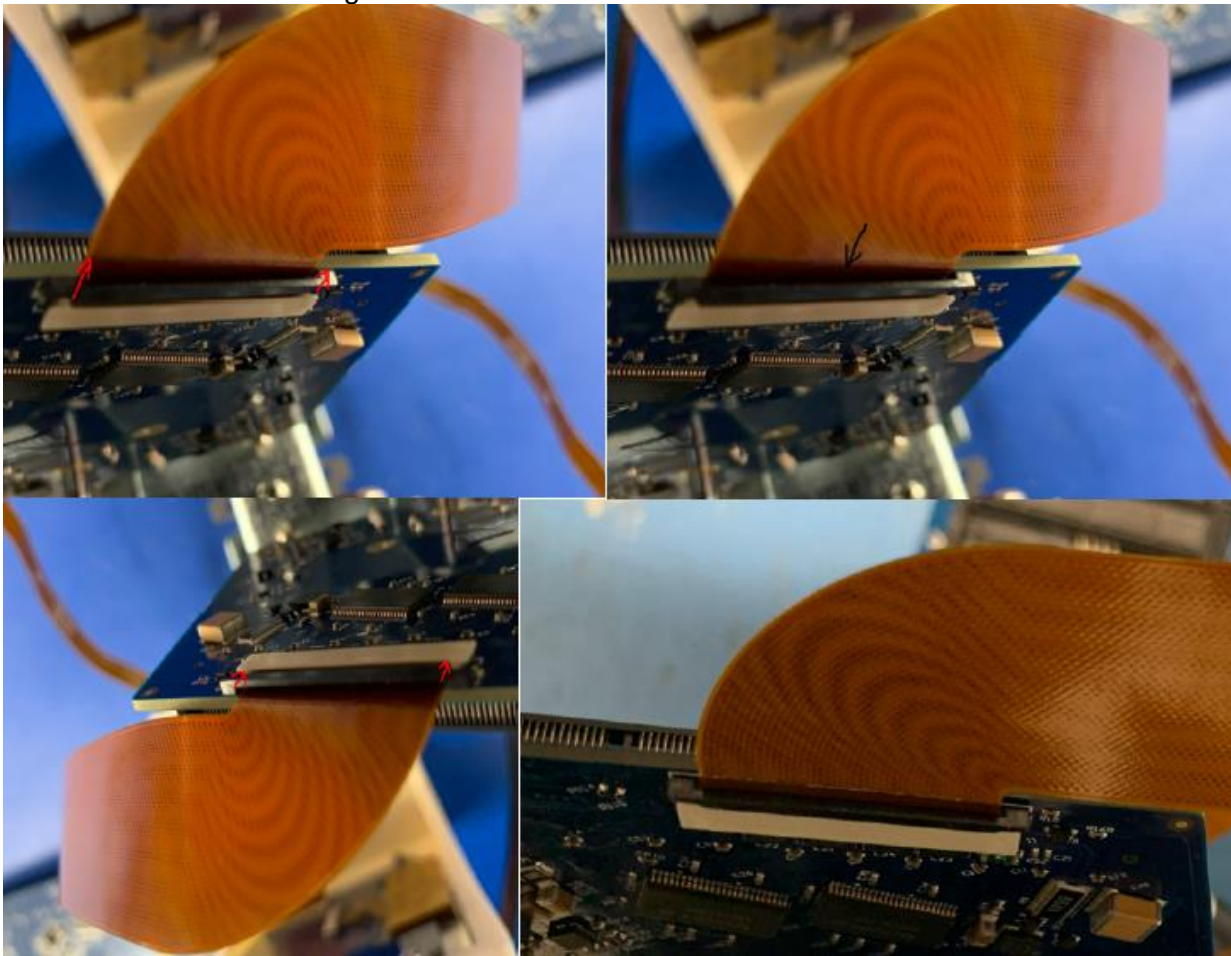

Figure 40
9.4. Connect Display and Card Reader Cables from the front bezel to the Main Board. For the display connector pull black tabs out and fasten the cable by pushing on both sides of the connector at the same time. Ensure cable is secure and straight (not crooked) to the connector of the board (pull cable to test) and black tab is flush to the white connector resembling last screen shot below in Figure 40.